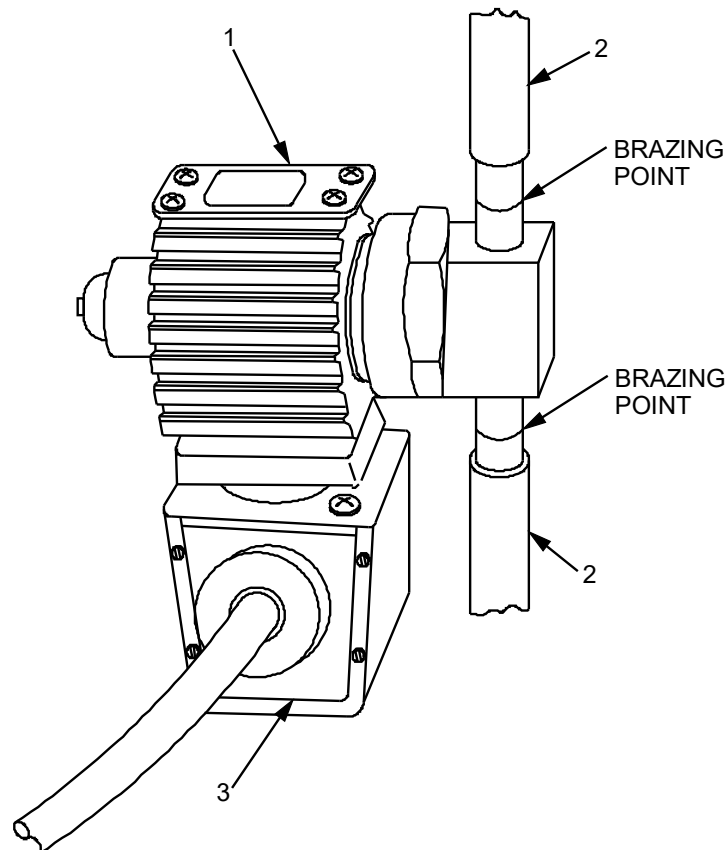

Figure 5. Solenoid Valve Replace.
4. Remove any insulation (Figure 5, Item 2) from solenoid valve (Figure 5, Item 1), and surrounding pipes to allow brazing.
7. Remove power head (Figure 5, Item 3) from solenoid valve (Figure 5, Item 1).
8. Debraze solenoid valve (Figure 5, Item 1) at brazing points (see Figure 5). If necessary, refer to WP 0115 for brazing procedures.
9. Mark and remove wires (33J and 42B) from power head (Figure 5, Item 3).
1. Connect wires (33J and 42B) to power head (Figure 5, Item 3).
2. Install solenoid valve (Figure 5, Item 1) and braze into place. If necessary, refer to WP 0115 for brazing procedures.
7. Install power head (Figure 5, Item 3) onto solenoid valve (Figure 5, Item 1).
8. Install any insulation onto solenoid valve (Figure 5, Item 2), and surrounding pipes.